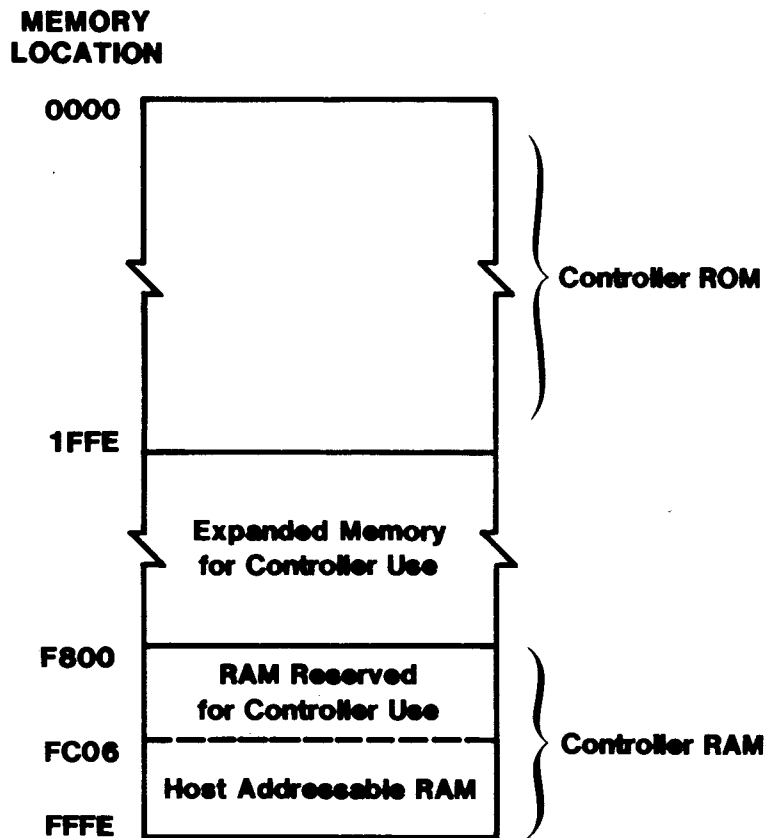

FIGURE 3-1. DISK CONTROLLER MEMORY MAP
4. The controller will prevent any writing to certain parts of its RAM (e.g. writing to it via the Write Controller Memory command) because parts of controller memory are reserved for functions such as memory mapping. The only area of controller RAM that can be written to is from address FC06₁₆ to FFFE₁₆. See Figure 3-1.